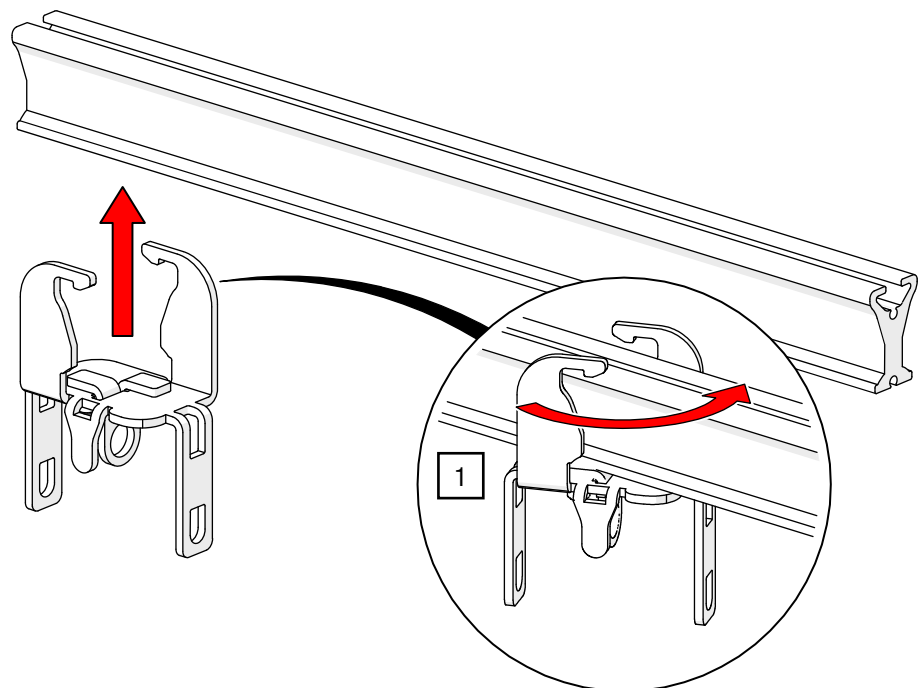
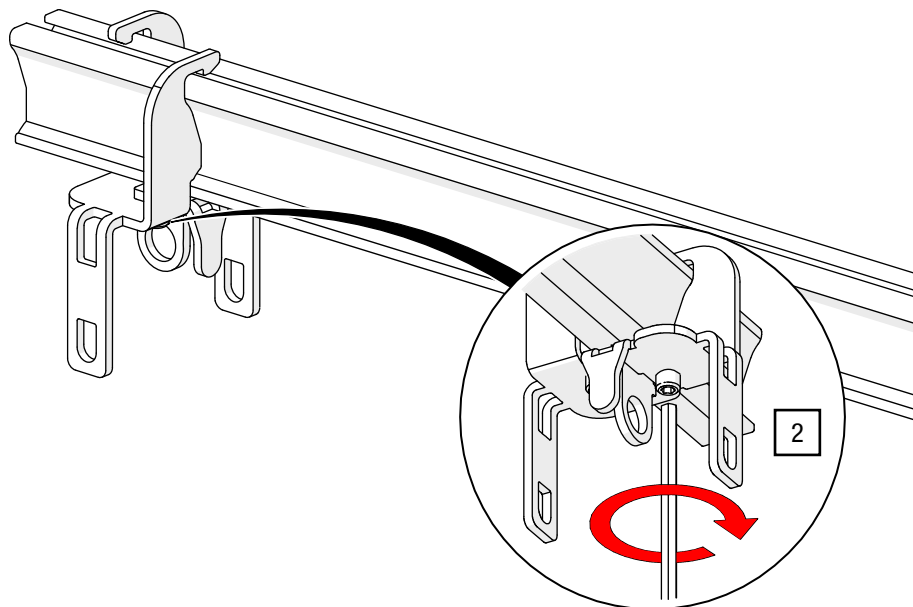

Fig. 51: Variable end stop with curtain mounting – Slide onto track
Fig. 52: Variable end stop with curtain mounting – Tighten grub screw
3. Turn the grub screws flush with the base plate, slide the end stop onto the track and turn it by 90° into the final position (see Fig. 51).
Ensure the correct orientation of the end stop for the following G-TRACK runners according to graphic Fig. 51 and Fig. 52.
4. Tighten the grub screws using an Allen key AF 2.5 and 6 Nm (see Fig. 52).